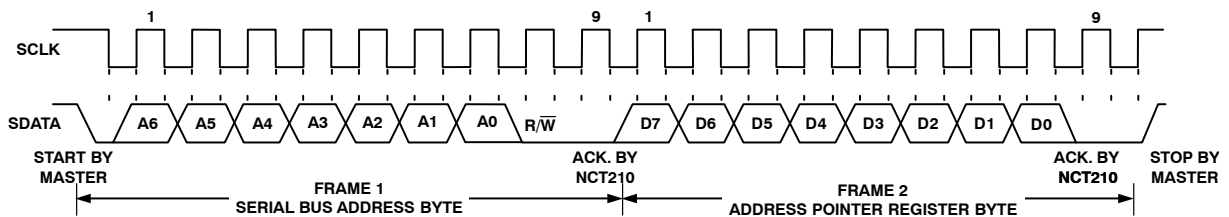

Figure 14. Writing to the Address Pointer Register Only
register read address is sent, because data is not to be written to the register. This is shown in Figure 14.
- If the address pointer register is known to be already at the desired address, data can be read from the corresponding data register without first writing to the address pointer register, so Figure 14 can be omitted.